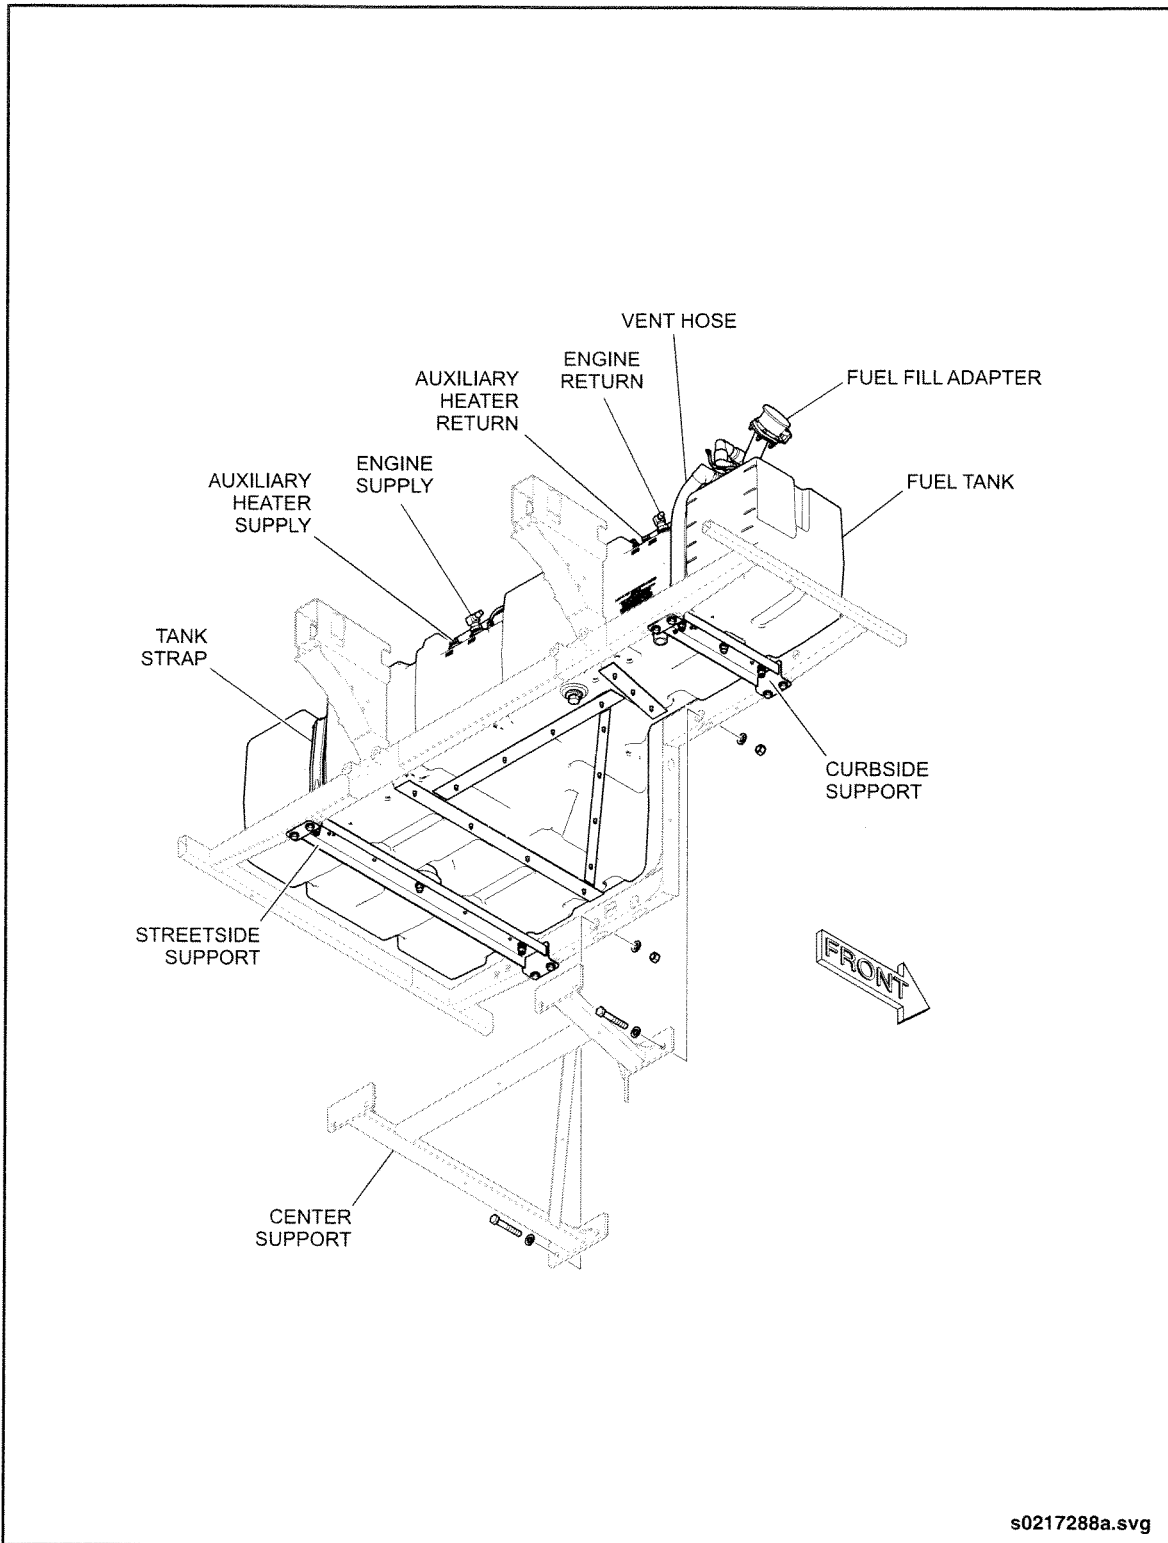

Fig. 7-1: Fuel Tank Installation
2. Remove the fuel filler adapter from the fill tube and remove adapter through the fuel filler access door. Plug the filler tube to prevent debris from entering. See "Fig. 7-1: Fuel Tank Installation" on page 4.